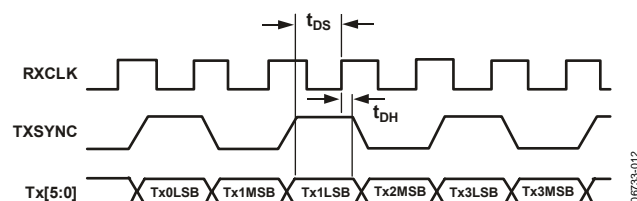

Figure 12. Tx[5:0] Port Full-Duplex Timing Diagram
3. Data from the Tx[5:0] port is read on the rising edge of this sampling clock, as illustrated in the timing diagram shown in Figure 12. Note that $\overline{\text{TXQUIET}}$ must remain high for the reconstructed Tx data to appear as an analog signal at the output of the TxDAC or IAMP.